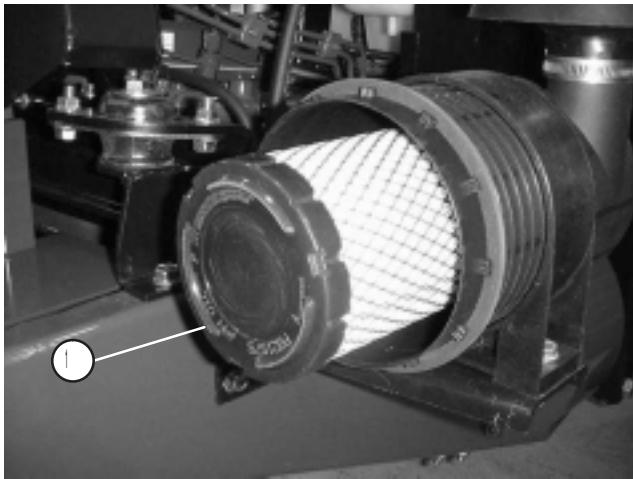

Figure 43
2. Gently slide primary filter (Fig. 43) out of air cleaner body to reduce the amount of dust dislodged. Avoid knocking filter against air cleaner body.